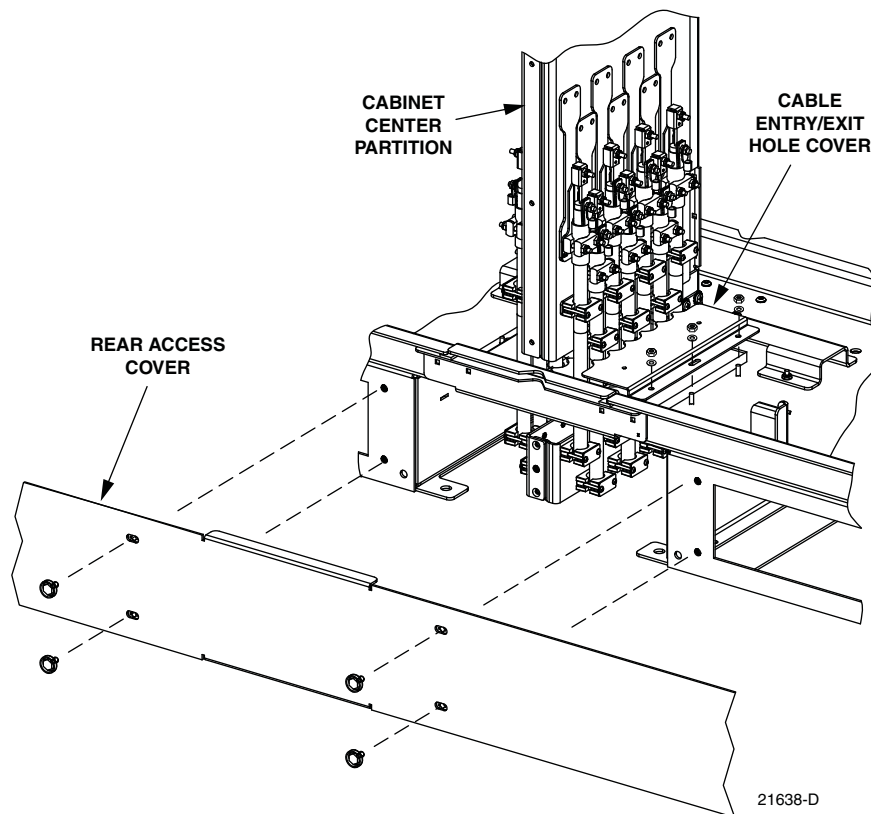

Figure 16. Cable Entry/Exit Hole Cover
1. Use a 3/16-inch hex-key to remove the screws that secure the rear access cover to the cabinet ground spacer/riser as shown in Figure 16.
3. Remove the nuts that secure the cable entry/exit hole cover (see Figure 16) to the bottom of the cabinet. Save nuts for reuse.
- **Note:** Figure 16 shows how to remove the entry/exit hole cover for cables 1–7. The entry/exit hole cover for cables 8–14 is mounted on the opposite side of the cabinet center partition and may be removed using the same basic procedure.